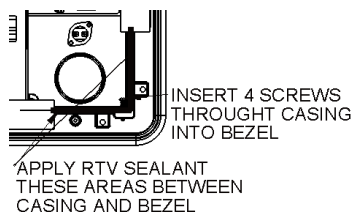
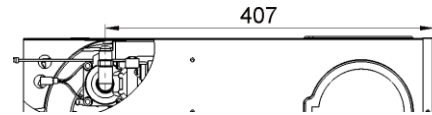
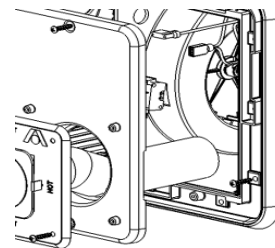

Figure 2
Figure 3
Figure 5
- With approx. 25mm of furnace casing protruding from the wall, affix the Bezel to the casing with 4 screws supplied. Apply sealant to bezel and casing per Fig. 2, push furnace back into van and secure to wall with 14 screws. See Fig. 5
- The gas pipe connection can now be made. Refer Fig 5 for dimensions of point of entry. Use 3/8" annealed copper tube. The flare connection is 40mm below the top panel, so if the clearance at the top is limited, the 9.5 Dia. Tube should be bent to give 40mm of parallel. (see Fig. 3) Min. bending radius 20mm. Before flaring, feed the rubber grommet followed by the 3/8 flare nut onto the pipe. Start the nut onto the nipple with fingers, and tighten using two spanners one on the nut the other on the valve for support. Refit the rubber grommet, Ensure this joint is leak tested before commissioning.
- Now fit the outside door 4 screws see Fig 5
- Now fit the outside exhaust vent 4 screws see Fig 5